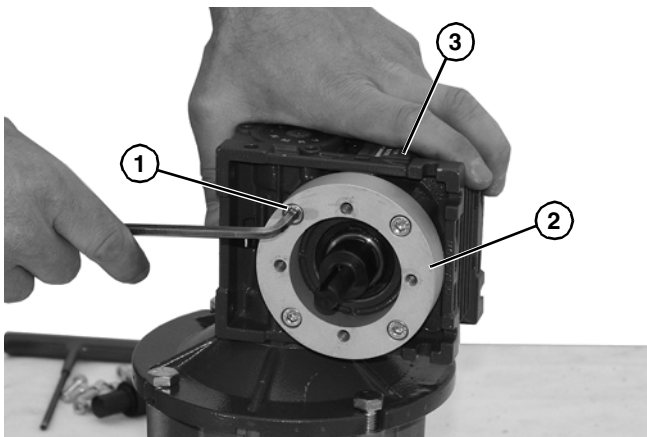

Figure 28
Step 6 and (Figure 28, item 2) is required for standard load VFD gearmotors only.
6. Loosen four (4) socket head screws (**Figure 28, item 1**) and detach spacer (**Figure 28, item 2**) from gear reducer (**Figure 28, item 3**).
9. Install spacer (**Figure 28, item 2**) onto gear reducer (**Figure 28, item 3**) with four (4) socket head screws (**Figure 28, item 1**).
5. Install spacer (**Figure 28, item 2**) onto gear reducer (**Figure 28, item 3**) with four (4) socket head screws (**Figure 28, item 1**).